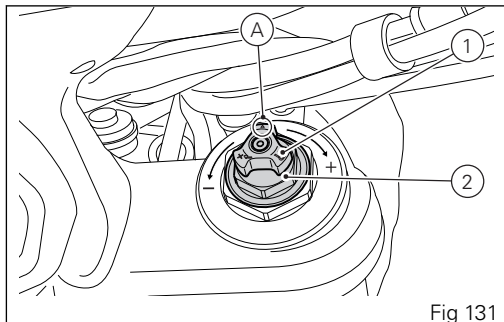

Fig 131
- 1) to adjust the rebound damping (Fig 131);
- 2) to adjust the preload of the inner springs (Fig 131);
To change preload of the spring inside each fork leg, turn the hex. adjuster (2, Fig 131) with a hexagon wrench of 0.87 in (22 mm), starting from the fully open (clockwise) position.
From reference (A, Fig 131), every full turn clockwise corresponds to 0.04 in (1 mm) of preload of the